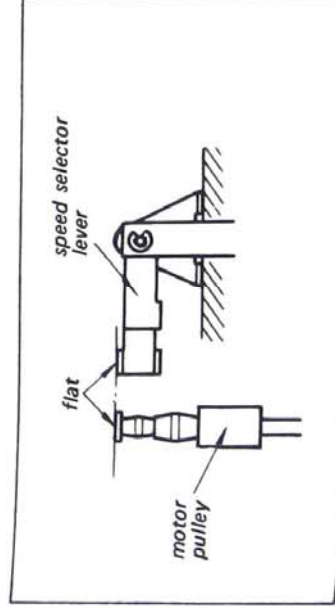

Fig. 4-1. Motor pulley height adjustment
4. Adjust the height of the motor pulley so that the top of motor pulley is even with the top edge of speed selector lever as shown in Fig. 4-1.